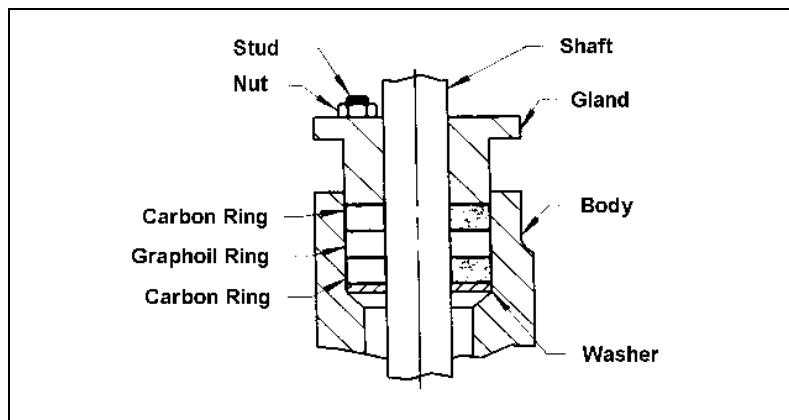

Figure 2 — Packing Option (G1)
The G1 packing is the only packing option available with the (FB) Fyre-Block seat. See Figure 2 for parts identification.
- a. Place the packing in the body, one ring at a time, in the configuration shown in Figure 2 — do not lubricate.